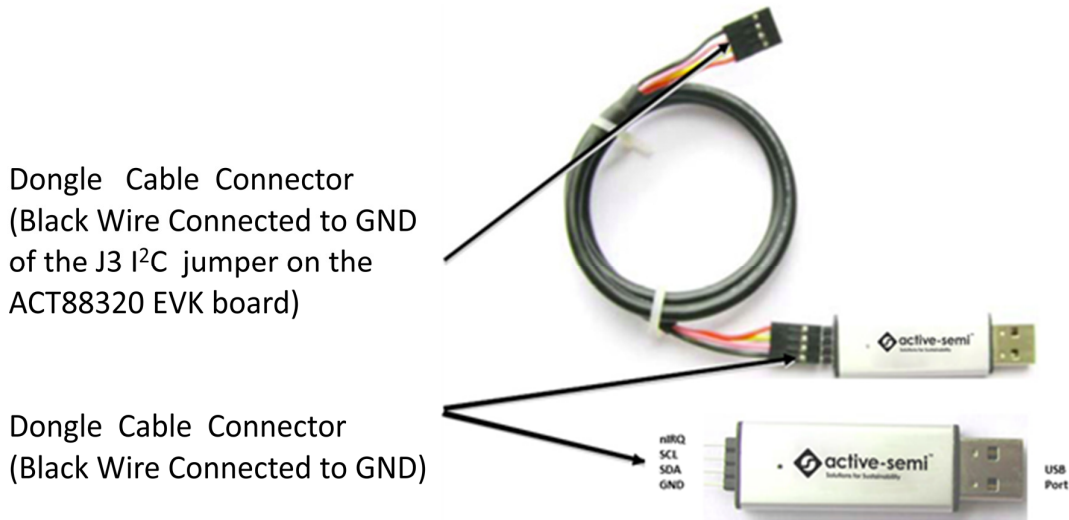

Figure 4 – USB-TO-I2C Dongle Connection
3. Connect the USB-TO-I2C dongle to the EVK J3 connector. Refer to Figure 4 to ensure the correct polarity of the connection. As a guide, use the “Active-Semi” logo on the top of the dongle so the black wire is connected toward the lower left corner of the Dongle.